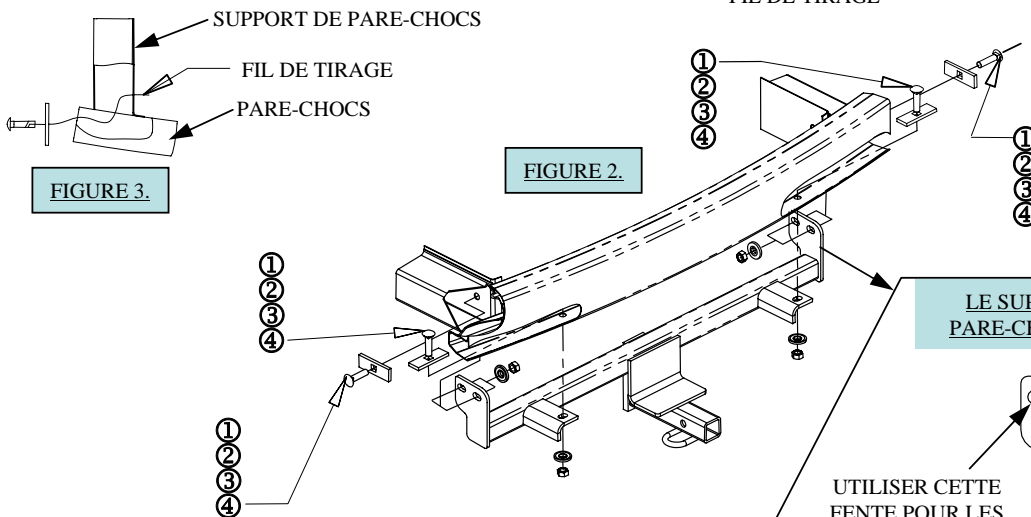

FIGURE 2.
4. Position hitch as shown in Figure 2.
5. Fishwire carriage bolts and blocks through ends of the bumper mounts as shown in Figure 2.
- PLACER L'ATTELAGE COMME ILLUSTRÉ À LA FIGURE 2.
- À L'AIDE D'UN FIL DE TIRAGE, FAIRE PASSER LES BOULONS DE CARROSSERIE ET LES BLOCS À TRAVERS LES EXTRÉMITÉS DES SUPPORTS DE PARE-CHOCS COMME ILLUSTRÉ À LA FIGURE 2 ET SERRER TOUTE LA VISSERIE.